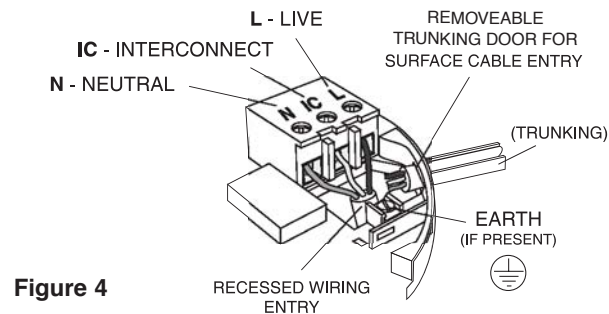

Figure 4
To interconnect alarms connect all the IC terminals together as shown in **Figure 4** (see “**Interconnecting Alarms**” section on page 23).
4. If the mains wires are recessed, bring the wires through the rear hole in the mounting plate as shown in **Figure 4**.
(a) position the mounting plate so the cable trunking is as shown in **Figure 4**.